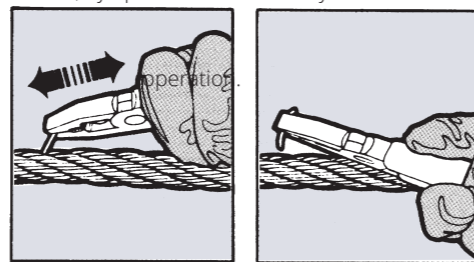

Fig 15
4.2 Remove broken wires as they occur by bending backwards and forwards using a pair of pliers until they break deep in the valley between two outer strands (see Fig. 15). Wear protective clothing such as overalls, industrial gloves, helmet, eye protectors and safety footwear during this